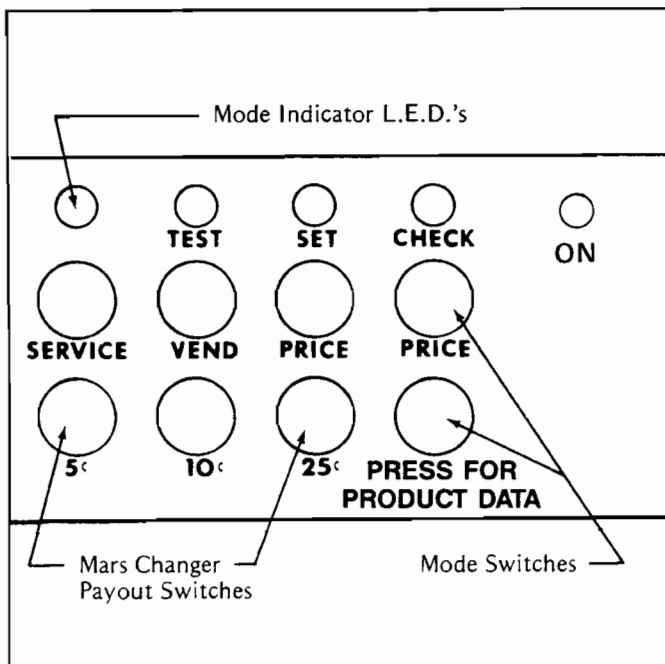
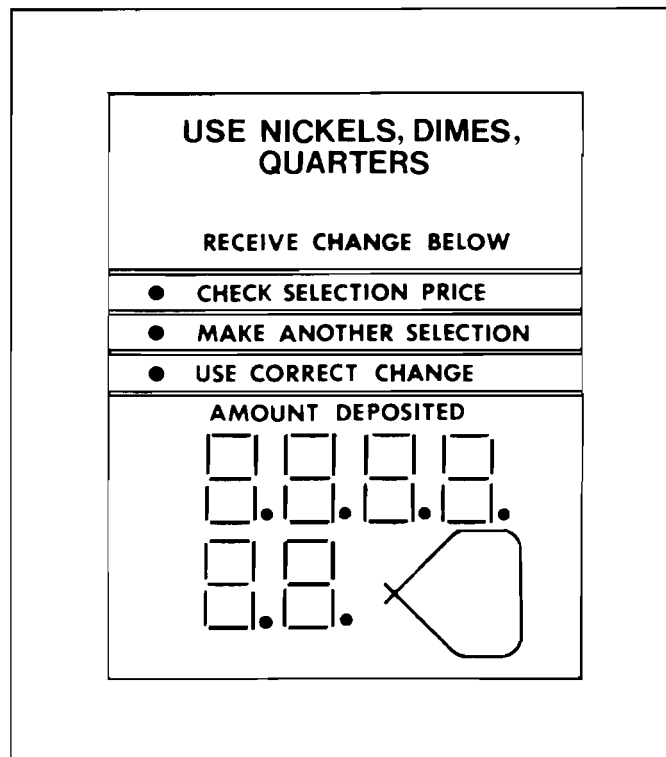

Figure 10. MODE SWITCHES.
Figure 20.
The mode switches are located on the control board. They allow for control of the following machine functions: Set price mode, check price mode, test vend mode, service mode and set serial number mode (see Figure 10). The
A. Press the mode switch "set price" button on the control board (Figure 10). The L.E.D. above the set
- A. Press the mode switch "check price" button on the control board (Figure 10). The L.E.D. above the check price button will light and the selection panel display will be blank.
A. Press the mode switch "set price" button on the control board (Figure 10). The L.E.D. above the set price button will light and the display located on the selection panel will be blank. Any selection programmed now will be removed from the operating program. This would be done when shelves are moved or the number of selections change (Example: Replacing a five selection shelf for a ten selection shelf.).
A. Press the mode switch "check price" button on the control board (Figure 10). The L.E.D. above the check price button will light and the selection panel display will be blank.
- A. Press the mode switch "check price" button on the control board (Figure 10). The L.E.D. above the check price button will light
- A. Press the mode switch "test vend" button on the control board (Figure 10). The L.E.D. above the test vend button will light and the display located on the selection panel will be blank. The machine is now ready to operate exactly under the same conditions as in the operate mode, so you will have to use money for the testing. After all servicing and testing has been made return the machine to the operate mode. The machine is now ready for normal customer usage.
- A. Press the mode switch "service" button located on the control board (Figure 10). The L.E.D. above the service mode button will light and the selection panel L.E.D.'s will all light (Figure 20). This tells the service person if all L.E.D.'s are in operating condition and that the Control Board is operating.
- C. If a non-functioning motor exists, record the selection on paper and repeat step B. Continue this procedure until all non-functioning selections have been displayed, recorded and the selection panel display reads all 8's (Figure 20).